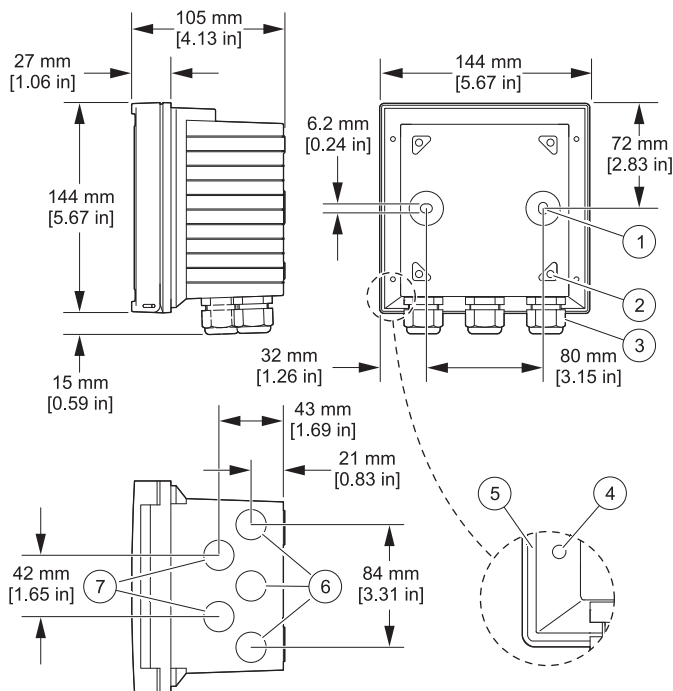

Figure 2 Wall attachment dimensions
1. Insert the strain relief fittings in the holes of the back enclosure and secure with the hex nuts (Figure 2).
1. Use a punch to open the two wall-mount holes in the back enclosure (Figure 2).
Refer to Figure 2 and the instructions supplied with the panel and pipe mounting kits (see Accessories on page 87).